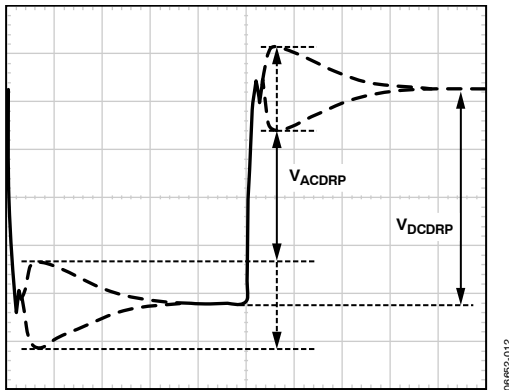

Figure 15. AC Load Line Waveform
4. Measure the output waveform. (Note that use of a dc offset on the scope may be necessary to see the waveform.) Try to use a vertical scale of 100 mV/div or finer. This waveform should look similar to Figure 15.
5. Use the horizontal cursors to measure  $V_{ACDRP}$  and  $V_{DCDRP}$ , as shown in Figure 15. Do not measure the undershoot or overshoot that occurs immediately after this step.